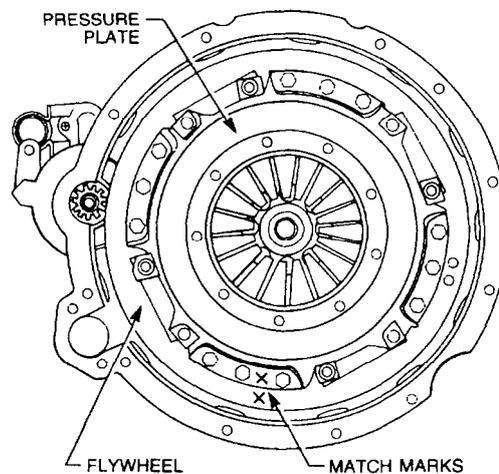

Figure 43 Pressure Plate Removal
- b. Lock the flywheel to prevent it from turning and matchmark the clutch pressure plate to the flywheel (Figure 43).